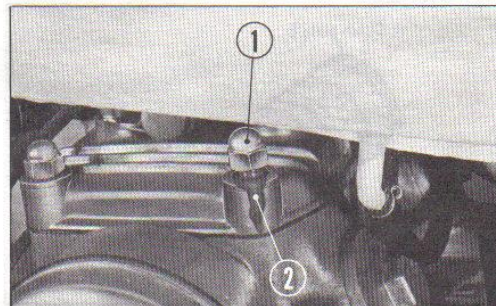

Fig. 88.
① Primary driven gear ② Primary drive gear
③ Dial gauge
8. Proper operation of the oil pump can be checked by loosening the left rear cylinder head cap nut. (Fig. 88) If oil seeps out, the lubrication is normal. Check the following points if there is absence of oil.